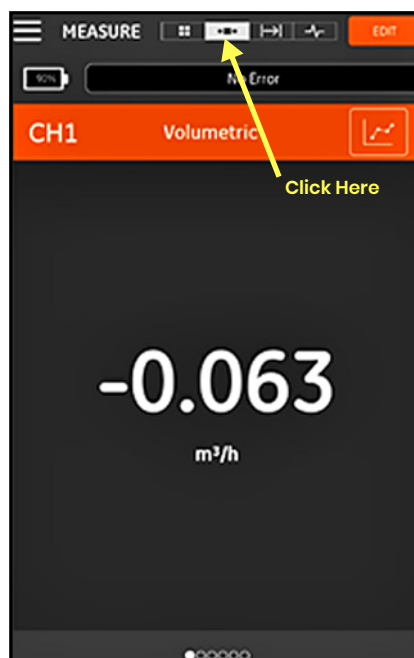

Figure 107: Single Measurement Screen
To change the screen to a one-measurement display (see *Figure 107 below*), click the  icon. In this mode, one measurement is displayed at a time and you can switch between available measurements by swiping across the screen left or right.
- The default one-measurement display is the numeric value of the real-time measurement, as shown in *Figure 107*.